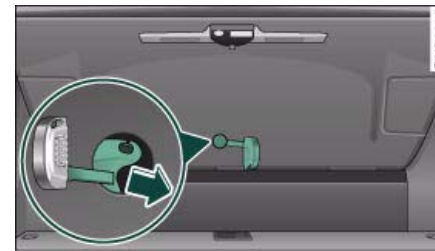

Fig. 44 Luggage compartment: Access to manual release
- Prise off the cover (using the emergency key)  $\Rightarrow$  fig. 44.